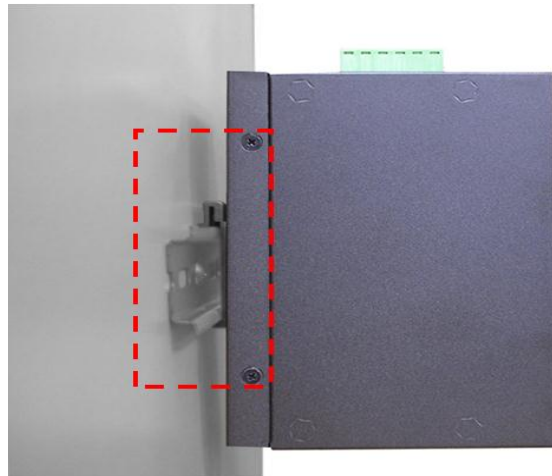

Figure 3.3: Stabilize the Switch on the DIN-Rail
Step 4 Lightly pull down the bracket on to the rail as shown below in Figure 3.3.